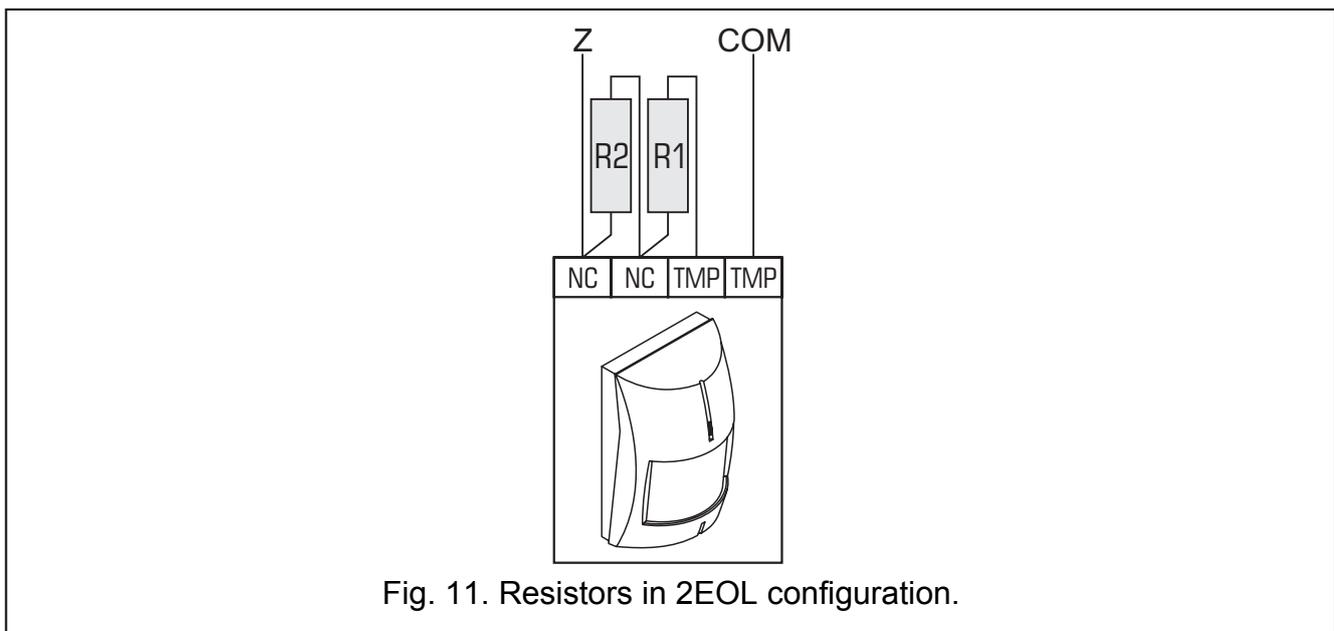

Fig. 11. Resistors in 2EOL configuration.
- on the INTEGRA 128-WRL control panel mainboard and in the zone expanders with firmware version 4.00 – the value of R1 and R2 resistors is programmed individually for the 2EOL configuration (see Fig. 11). The resistor value for the EOL configuration is a sum of values programmed as R1 and R2.